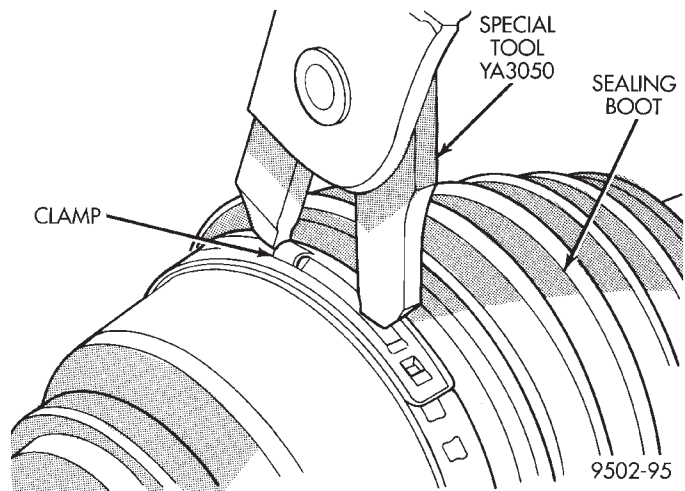

Fig. 39 Clamping Tool Installed on Sealing Boot Clamp
- Place prongs of clamp locking tool in the holes of the clamp (Fig. 39).